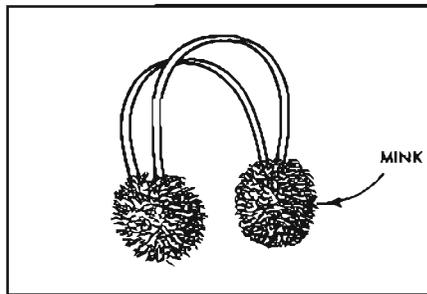
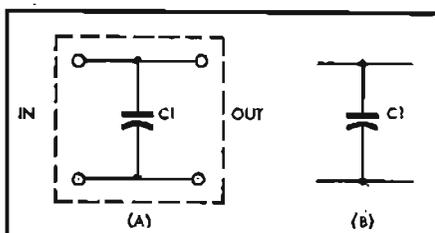

Fig. 2. Device developed to eliminate over-accentuated bass.
Fig. 1. Triangle-elimination network.
An example of such a useful adjunct to a hi-fi system is shown in Fig. 1. This device was developed by the author in response to a complaint made by a neighbor, who had invested twelve hundred dollars in a hi-fi system, and was fatigued by the sound of triangles, the musical instrument used to a great extent in swing music and Tchaikowsky. (A) shows the device developed by the author for the almost complete elimination of the sound of the triangles. The value of C , is not given, as this would depend on the associated circuitry, and may be best determined by experiment. (B) shows the connection in the circuit.
The author has devised a simple mechanical device to relieve aural fatigue resulting from this condition. Figure 2 shows a set of ear-muffs made by modifying a conventional hi-fi headset.
The TFM-151, however, sets a new standard for quality performance in a transistor portable. It uses fifteen transistors in a unique assortment of PNP and NPN types—eight in the FM tuner section, three in the AM tuner, and four in the a.f. amplifier. The entire unit, shown in Fig. 1, measures $3 \times 8\frac{1}{4} \times 9$ in. and weighs only $5\frac{1}{2}$ lbs. It is powered by four "D" cells with a total of 6 volts.
The Sony TFM-151 is the world's first transistorized AM/FM portable, and Sony deserves praise for both the design and construction. Figure 2 is an internal view of the printed-circuit construction. The AM "front end" is at the left of the gang capacitor, while the FM i.f. strip is the section just above the speaker magnet. The set could well serve as a model for any transistorized construction. A-24
Fig. 1 (left). Sony TFM-151 AM/FM transistorized portable. Fig. 2 (right). Interior of 15-transistor receiver. Note speaker magnet frame projecting through opening in printed-circuit panel.